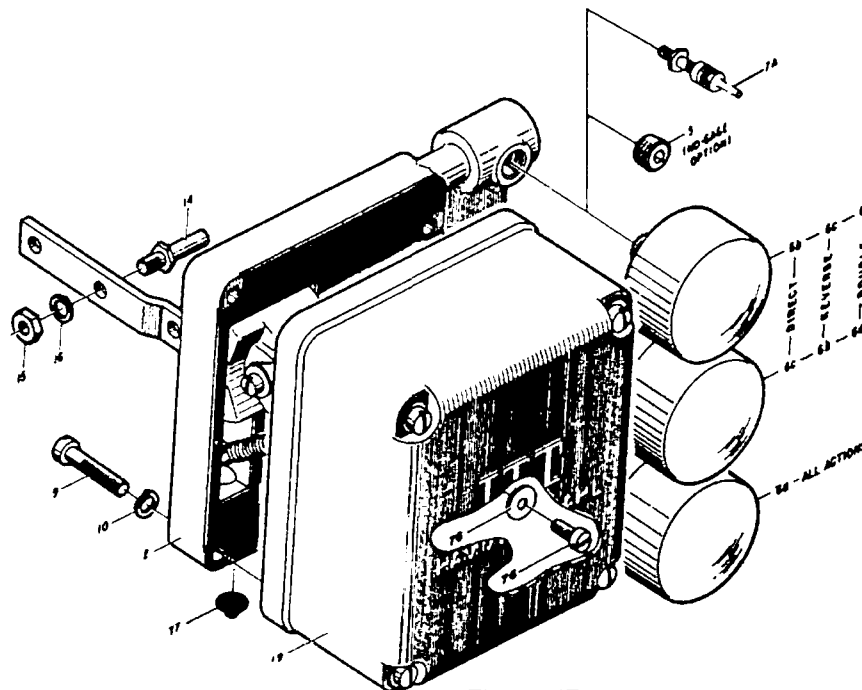

Figure 17
**Complete Positioner (Figure 17)**
**Control module (1) and manifold (2)**